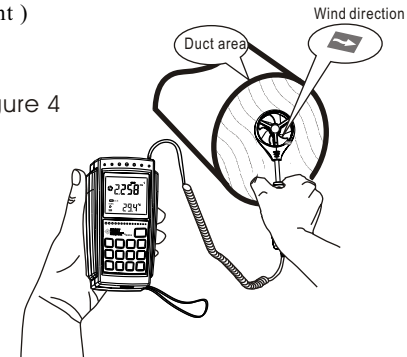

Figure 2
- Press “Next STEP“ Showing the customer Information as show in figure2: